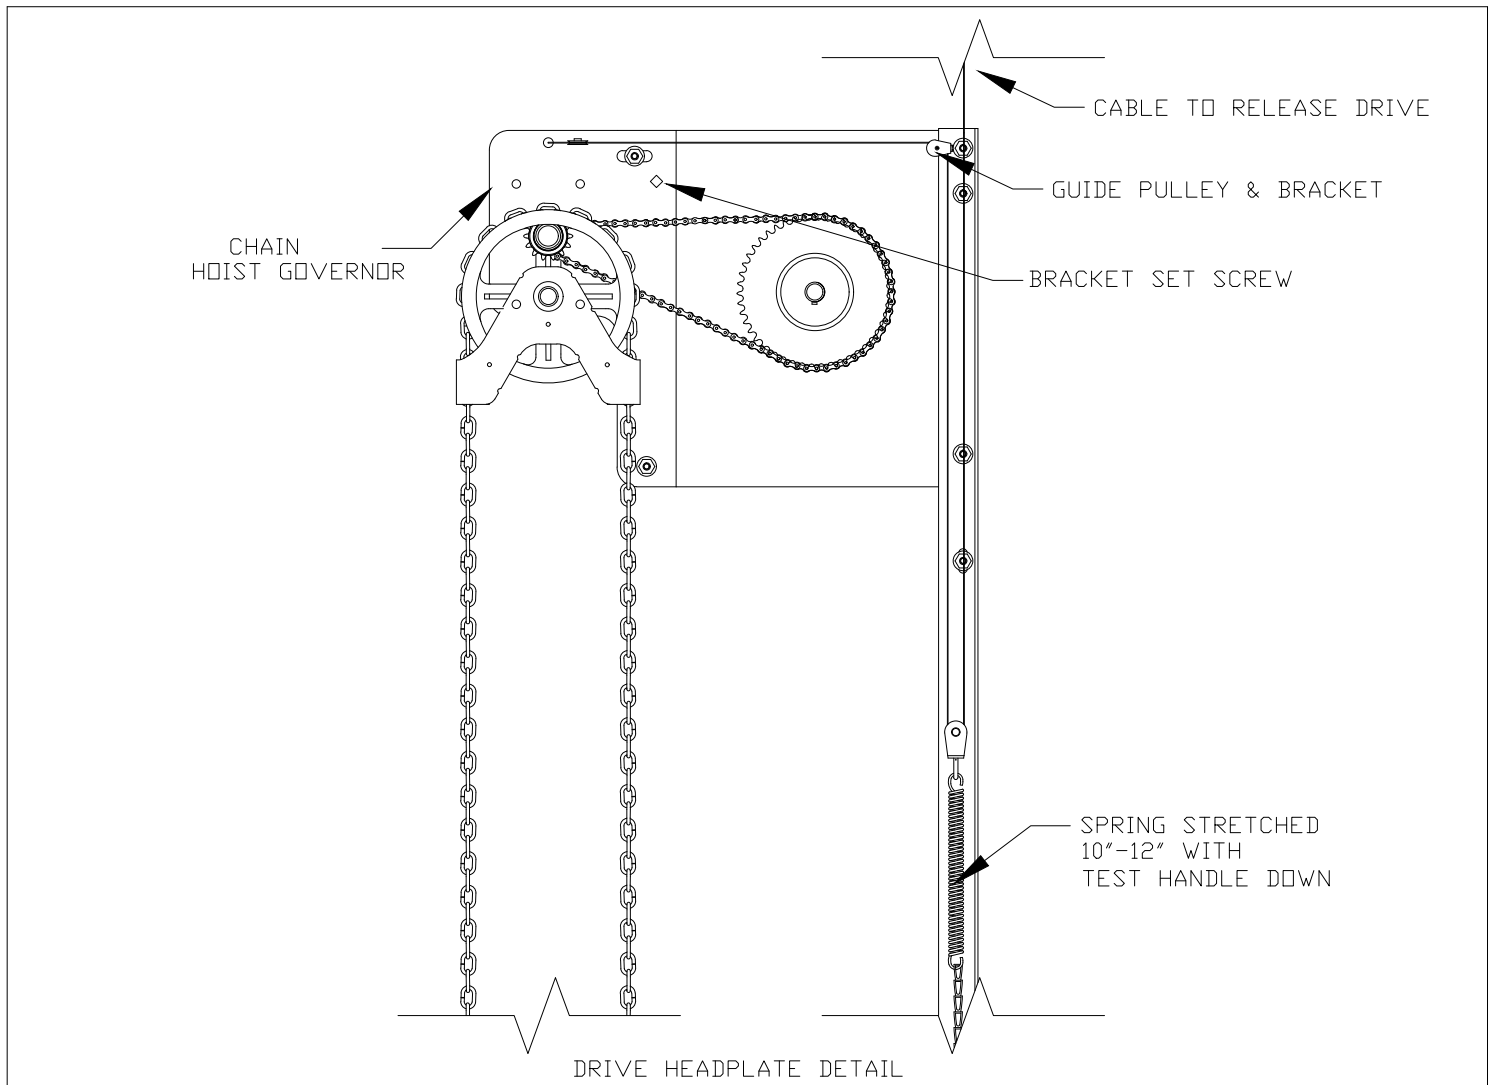

FIGURE 4
- a. Rig fusible links, disconnect cable, pulleys, spring and test handle as shown in Figure 4, above, in the base installation manual Appendix "A" and per NFPA-80.